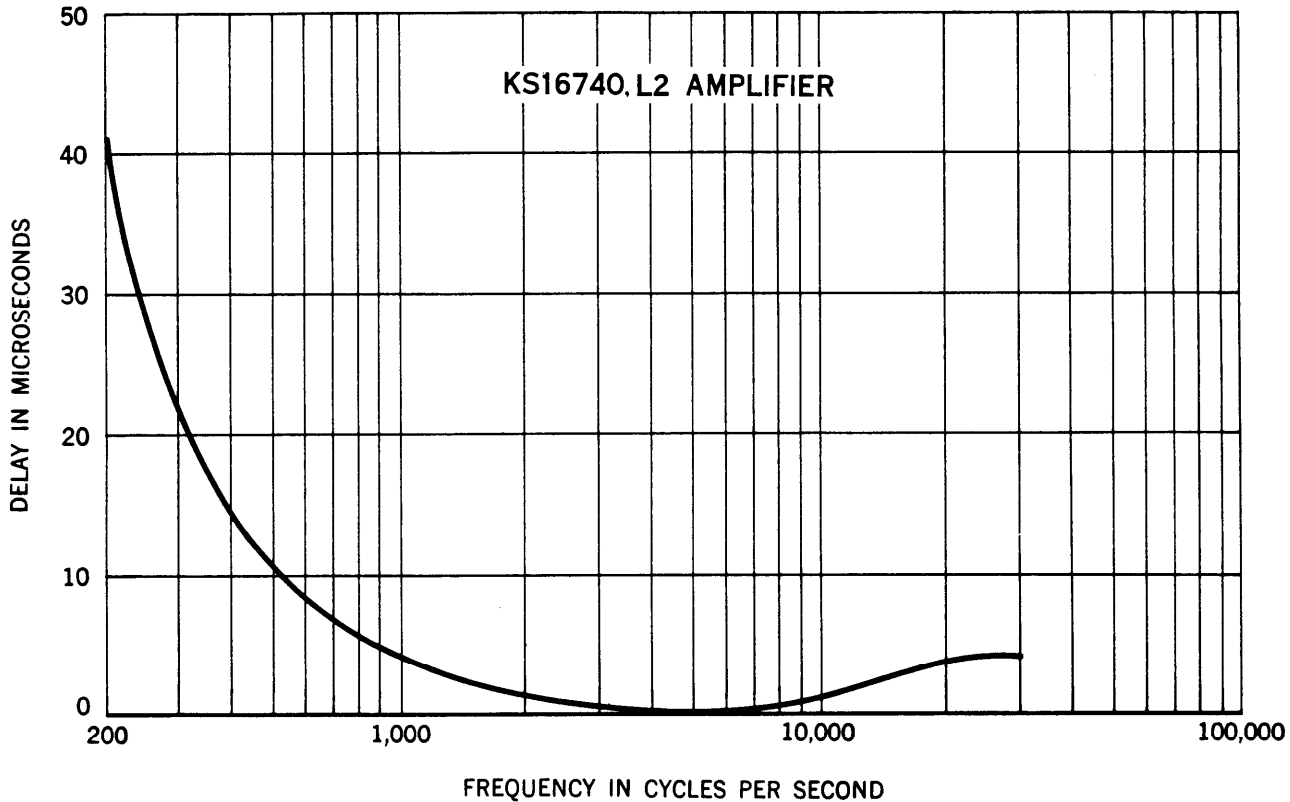

Fig. 10 - Delay Distortion vs Frequency — 30 kc
5.06 Fig. 10 shows the delay distortion characteristics of the amplifier up to 30 kc.